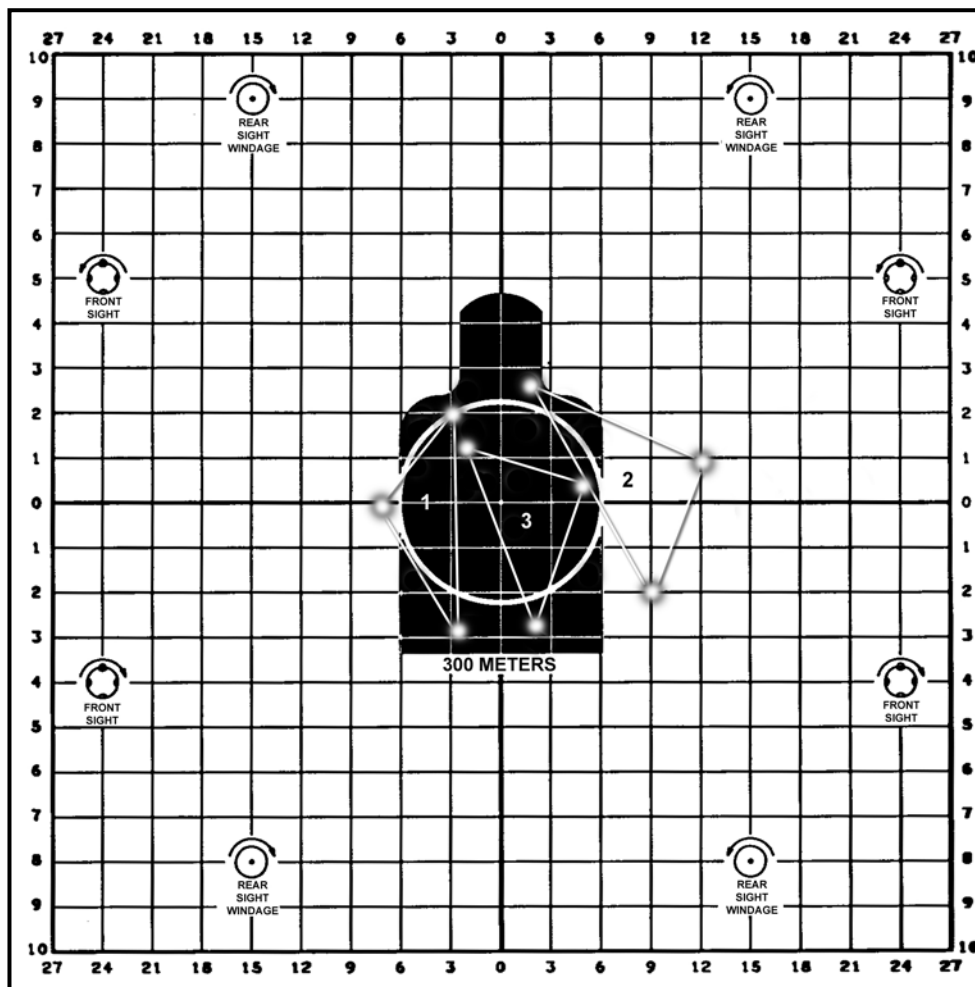

Figure 5-14. Shot groups with inconsistent aiming and major shooting error.
(4) *Shot Groups with Inconsistent Aiming and Major Shooting Error.* The groups shown in Figure 5-14 indicate inconsistent aiming and major shooting errors. The firer should be assigned a coach to troubleshoot the soldier's four fundamentals in an attempt to isolate the soldier's firing errors.